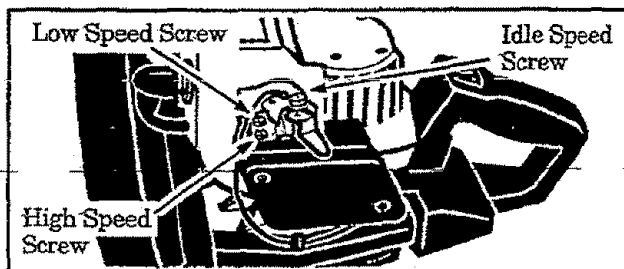

Figure 10
- a. Turn low speed screw and high speed screw (Figure 10) clockwise until they stop. Do not turn screws until they are tight as damage to needle seats can occur.
2. Adjust idle speed screw (Figure 10) until the engine continues to run without stalling and without blade moving.
- b. If the engine does not accelerate smoothly, turn the low speed screw (Figure 10) counterclockwise a small amount (no more than the width of the slot in the adjusting screw).
2. Turn the low speed screw (Figure 10) slowly clockwise until the speed starts to drop. Note this position.